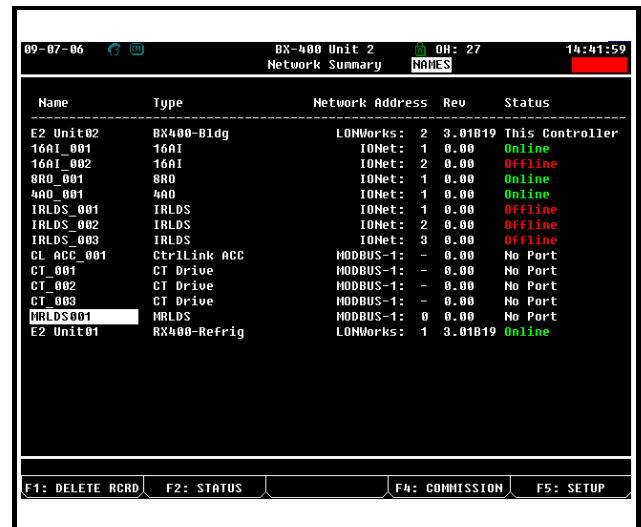

Figure 3-6 - Network Summary Screen
- Press to return to the Network Setup menu, then select **3** - **Network Summary** (Figure 3-6).